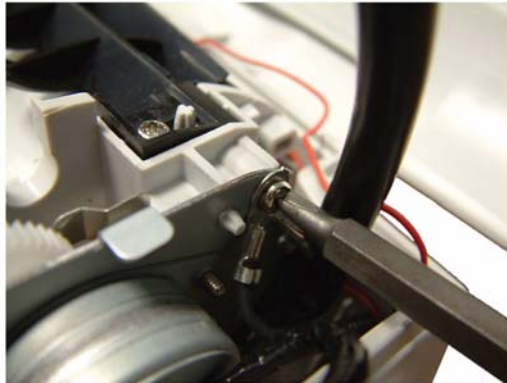

Figure 4
3. Unscrew the mounting screw of the ground cable, Figure 4.